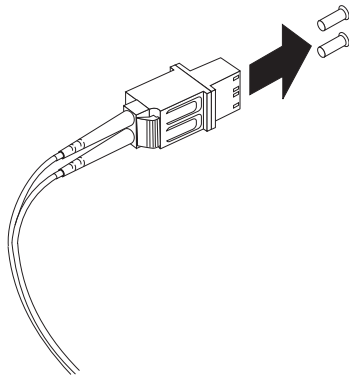

Figure 24. Removing the LC-SC cable adapter protective caps
3. Remove the two protective caps from the LC connector end of the LC-SC cable adapter as shown in Figure 24. Save the protective caps for future use.